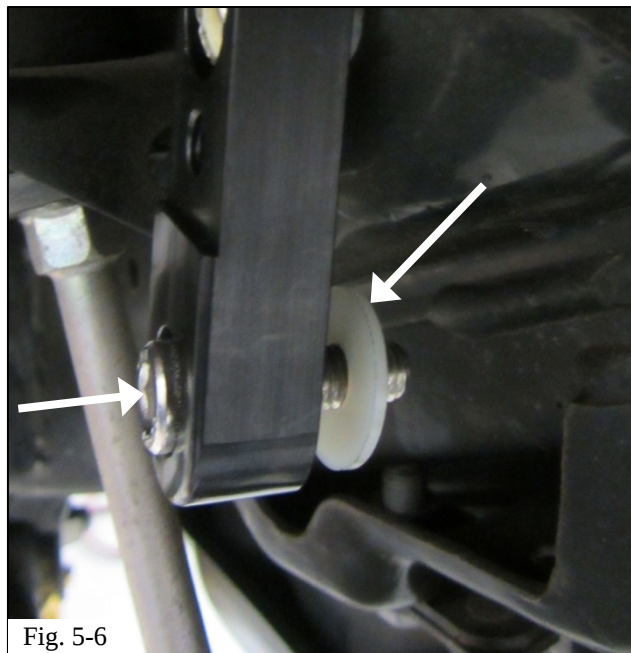

Fig. 5-6
- (f) With the reservoir bracket adapter hanging upside down, slide the M8 SHCS through a split lock washer for M8 SHCS, and then into the remaining countersunk hole (Fig. 5-6).
- (g) Slide the nylon washer over the exposed thread of the M8 SHCS (Fig. 5-6).